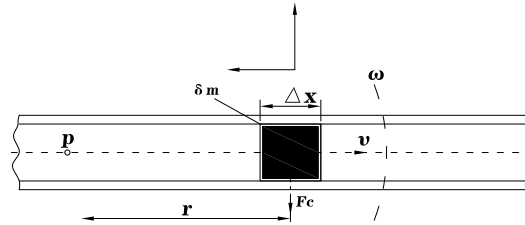

Figure 1-1
If a pipe is rotated around a point (P) while liquid is flowing through it (toward or away from the center of rotation), that fluid will generate an inertial force, with reference to Figure 1-1:
The force generated by tangential acceleration is Coriolis force, its value is equal to $F_c = 2\omega v \delta m$. In figure 1.1 fluid $\delta m = \rho A \times \Delta X$, So Coriolis force can be expressed as: